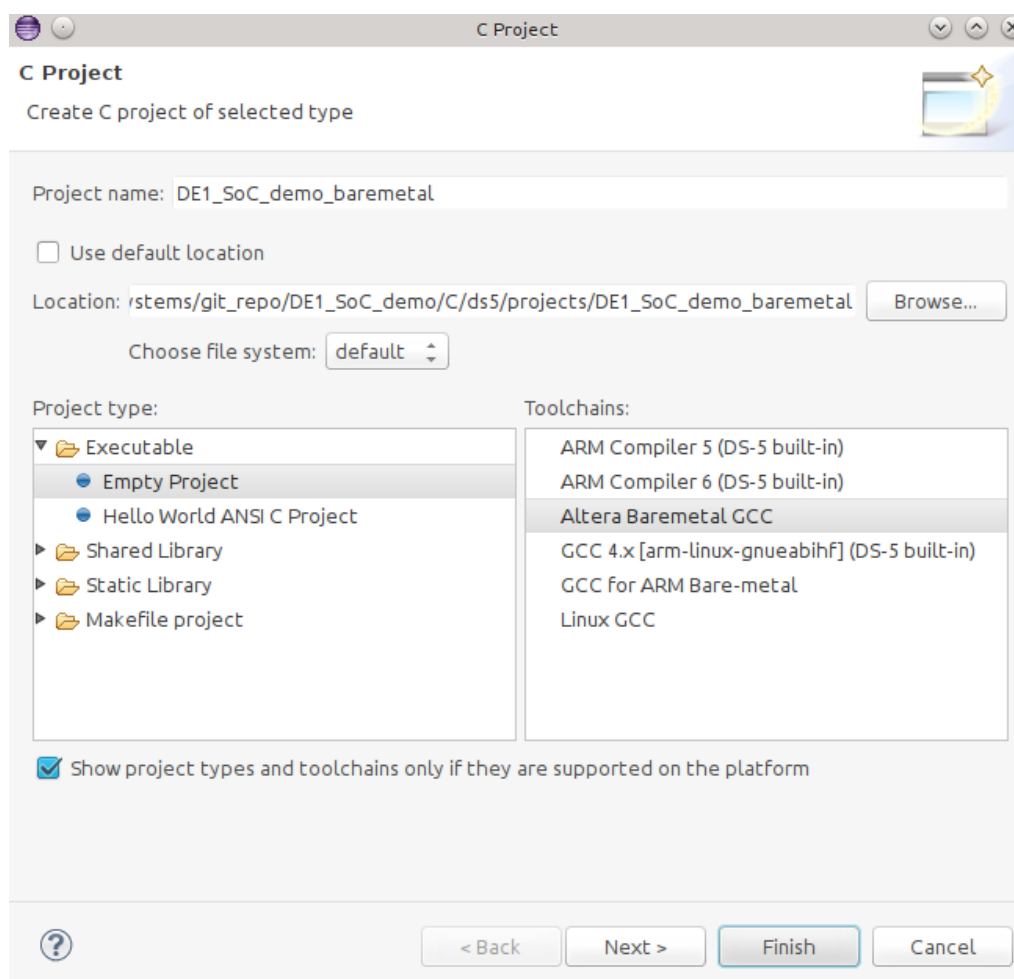

Figure 8-23. New C Project Dialog
- f. You should have something similar to Figure 8-23. Then, press the “Finish” button to create the project.